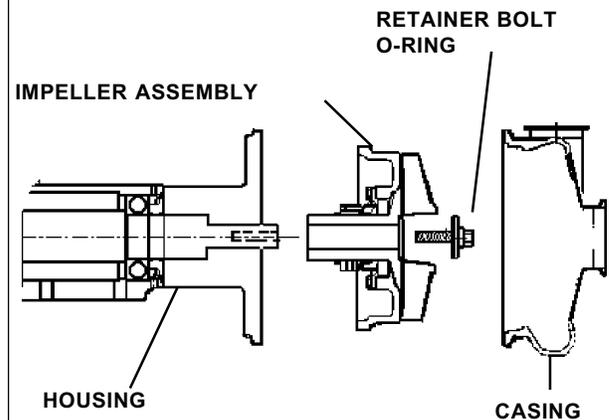

Figure 4
1. Release clamp and remove casing. Remove impeller retainer bolt and O-ring. Pull impeller/backplate assembly off bearing housing shaft. (Figure 4)